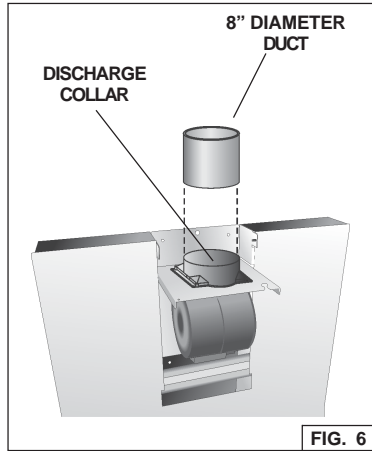

FIG. 6
4. Attach an adequate length of 8" round steel ducting to the range hood discharge collar (Fig. 6). Duct tape all joints to make them secure and air tight.